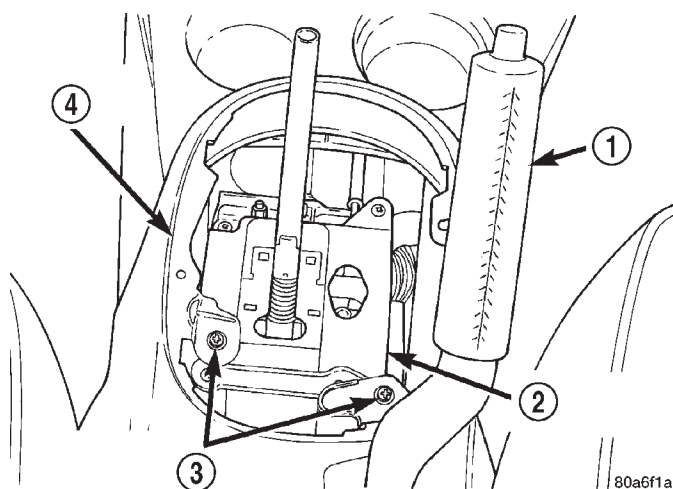

Fig. 134 Center Console Front Attaching Screw
(3) Remove the 2 screws (Fig. 134) attaching the center console to the shifter.